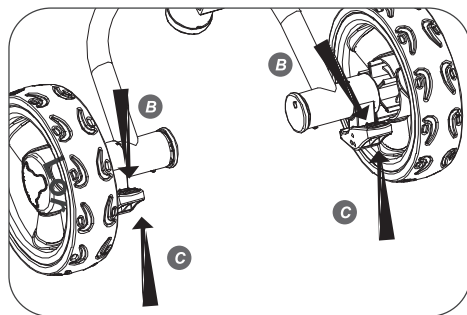

Fig. 20
27. To Set the Rear Brakes (Left and Right) push one Rear Brake **B** down with with foot until it “clicks”. If Rear Brake does not “click” then roll back and forth slightly to allow the Rear Brake to engage into the wheel. Then repeat with other Rear Brake (See Fig. 20). Both Rear Brakes should be engaged.
To release Rear Brakes (Left and Right) pull up one Rear Brake **C** with foot until it “clicks”. Then repeat with other Rear Brake (See Figure 20).